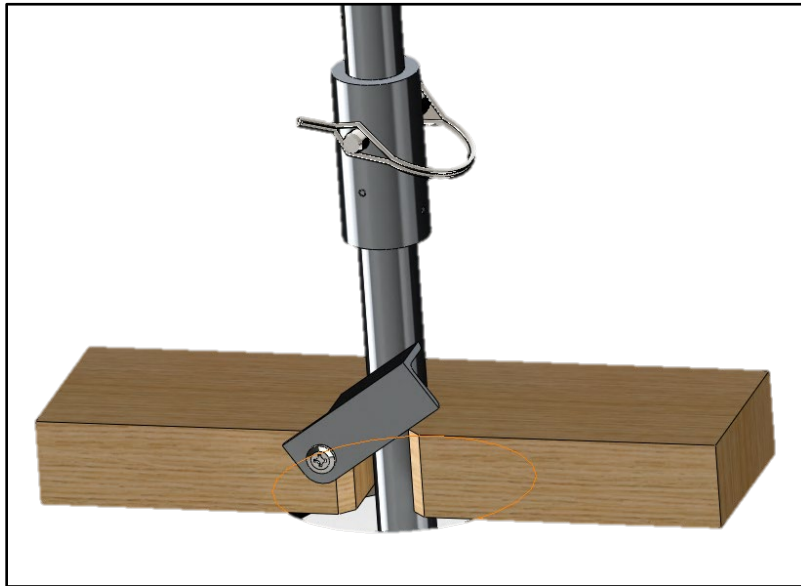

Figure 4: Extension Support
2. Slide the extension support (Figure 4) onto the stem just below the point the string will be broken and close its gate.